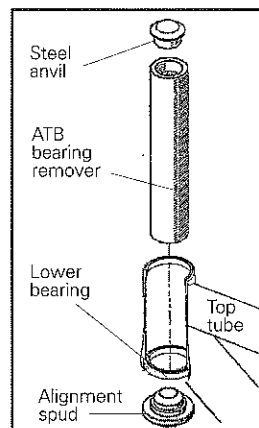

Fig. 50
8. Insert the large end of the **alignment spud** into the lower bearing (Fig. 50).